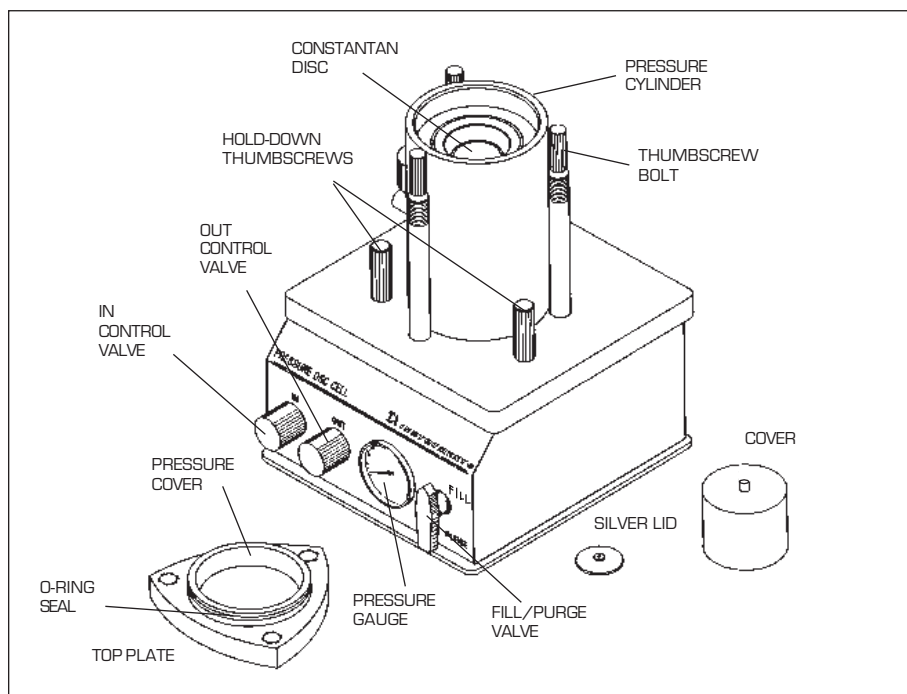

Figure PDSC.3
2. Push down on the two hold-down thumb-screws (see Figure PDSC.3) and turn them clockwise. The hold-down screws need only be finger tight to engage the safety interlock and keep the PDSC stable.